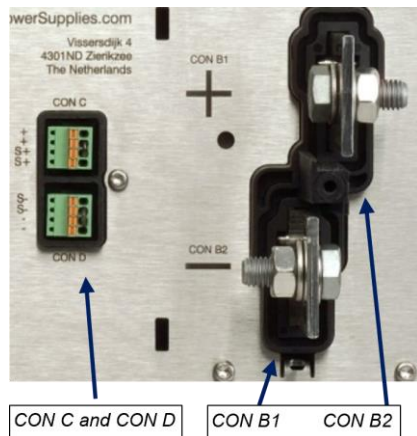

Figure 7.3: The two DC power terminals CON B1 and B2. CON C and D are the sensing connectors.
- These terminals are located at the rear side, marked as CON B1 (PLUS) and CON B2 (MINUS), see Figure 7.3.
- The remote sensing connectors are located at the rear side, marked as CON C and CON D, see Figure 7.3.